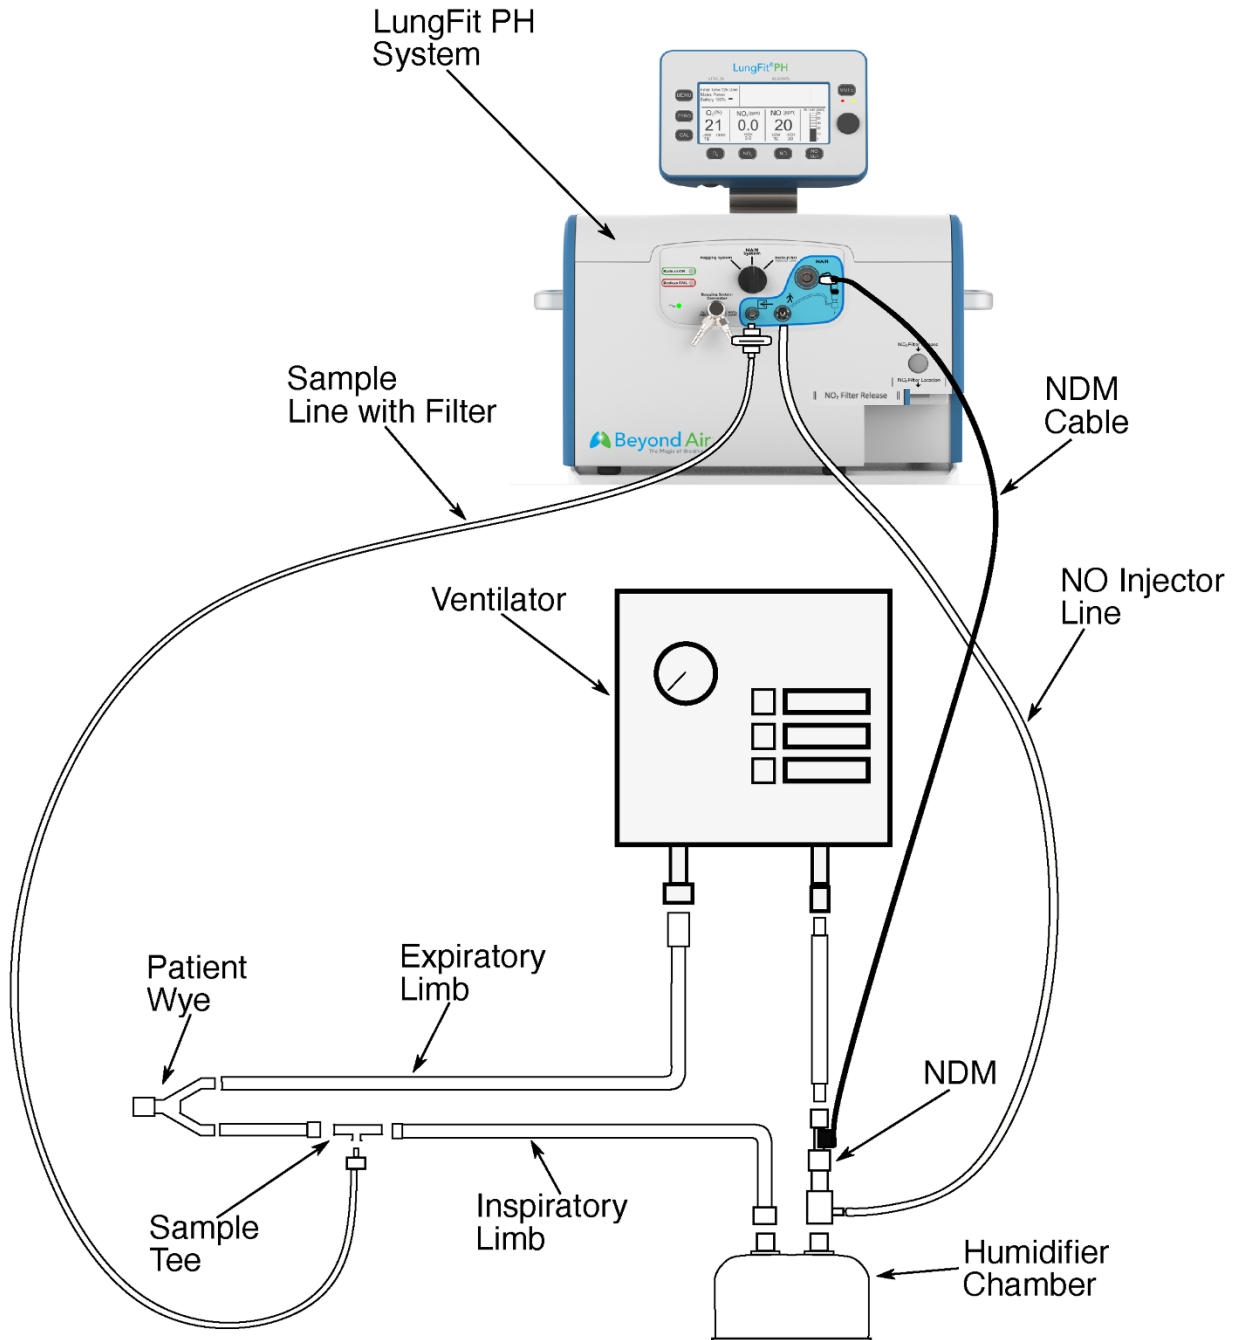
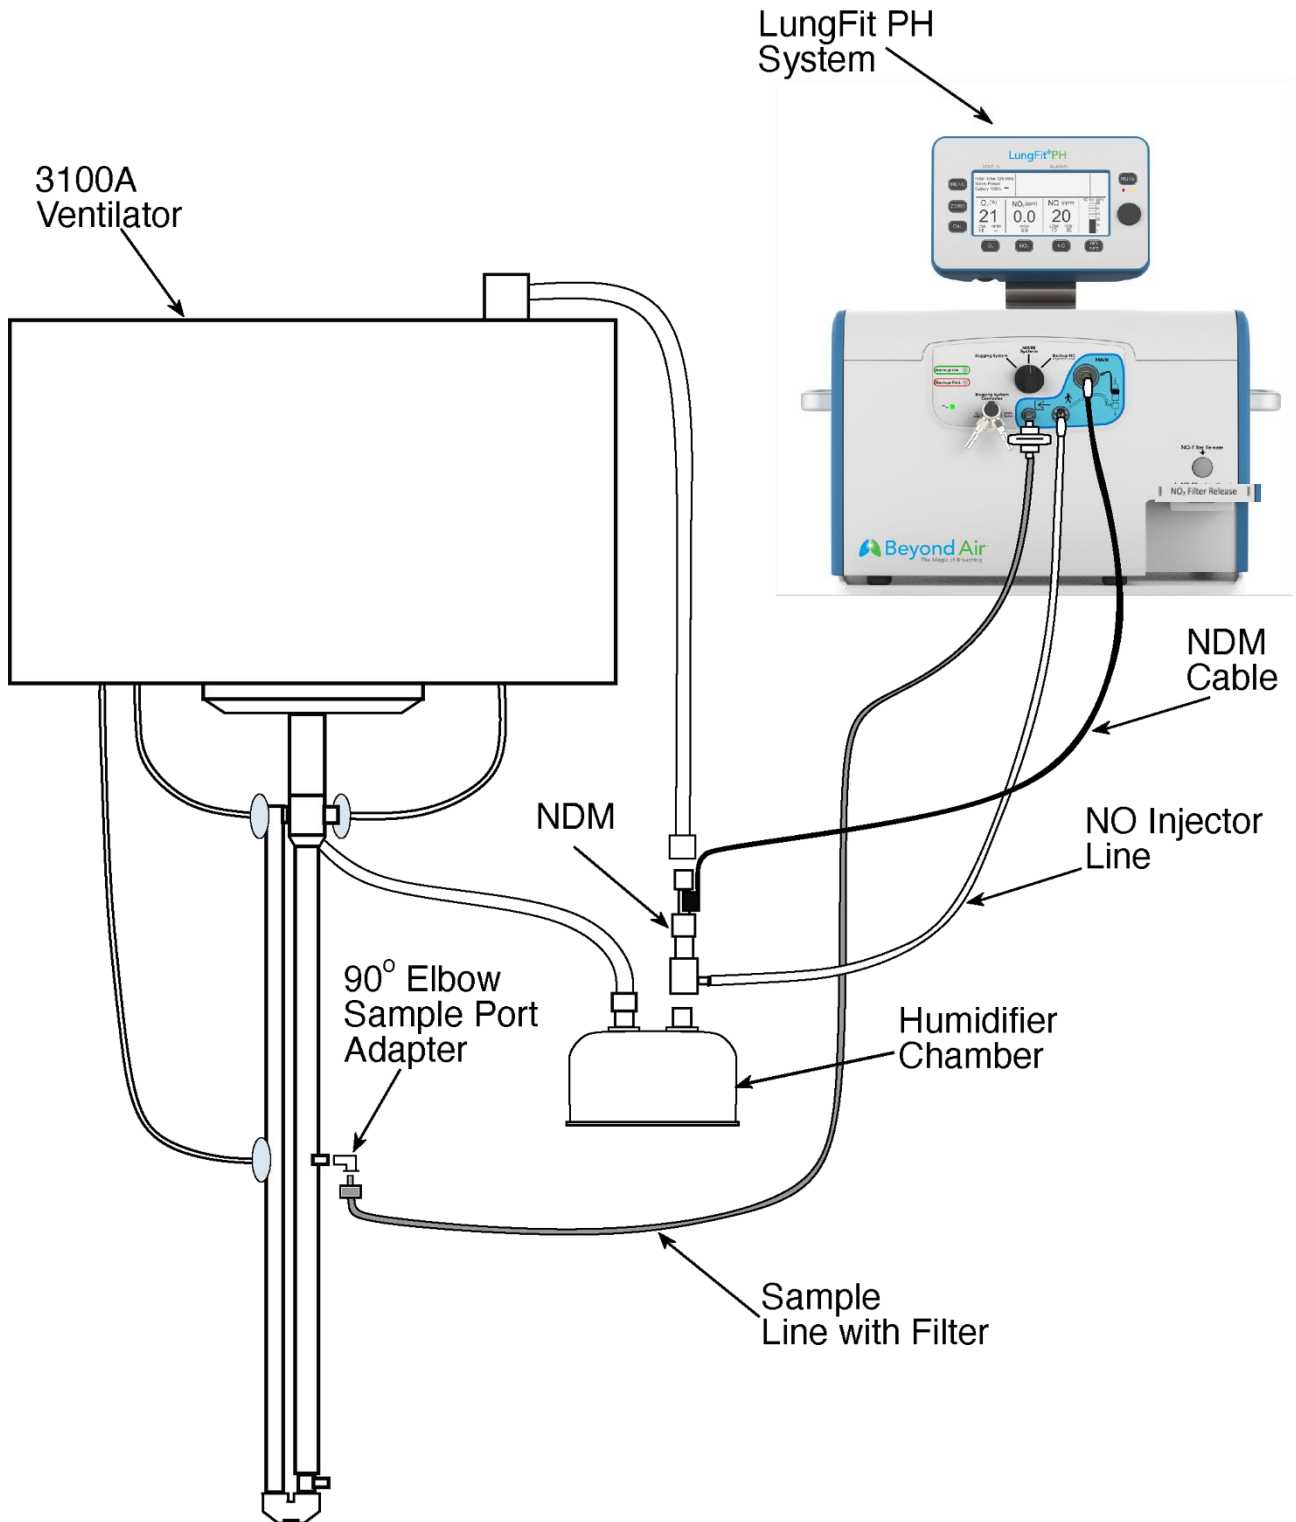

Figure 19: Connecting the LungFit PH System to a Mechanical Ventilator Circuit
Figure 20: Connecting the LungFit PH System with the Vyair 3100A HFO Ventilator
- The Nafion end of the sample line will attach to the Luer connection on either the Verification kit (*see section 10.4, Figure 18*) or the ventilator circuit (*see Figure 19*)
Figures 19 and 20 show how the system integrates with a ventilator circuit for use on a patient.
- Place flow sensor/injector adapter (Nitric Oxide Delivery Module, NDM) on the inlet port of the humidifier. Be sure that it is placed on the dry side of the humidifier chamber and that the flow sensor is above (before) the injector adapter. (*See Figure 19 for using with a conventional ventilator circuit and Figure 20 for use with a Vyair 3100A HFO ventilator*)